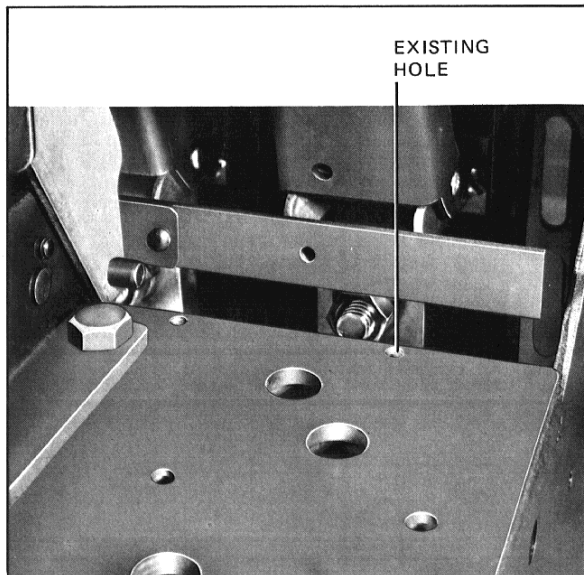
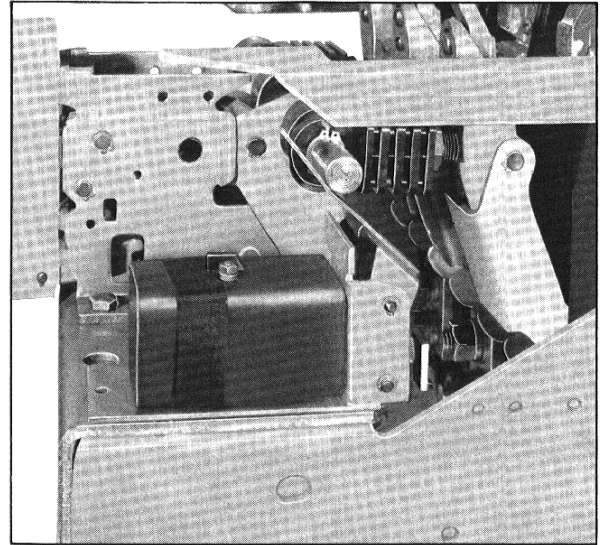

Fig. 9 *Location of Existing Hole for Actuator*
Fig. 10 *Positioning of Actuator*
- Using the existing .25-20 tapped hole in the breaker platform, Fig. 9 and .25-20 x .5 sems screw secure the Actuator to the breaker with the right edge of the Actuator base parallel to the side of the breaker platform, Fig. 10.